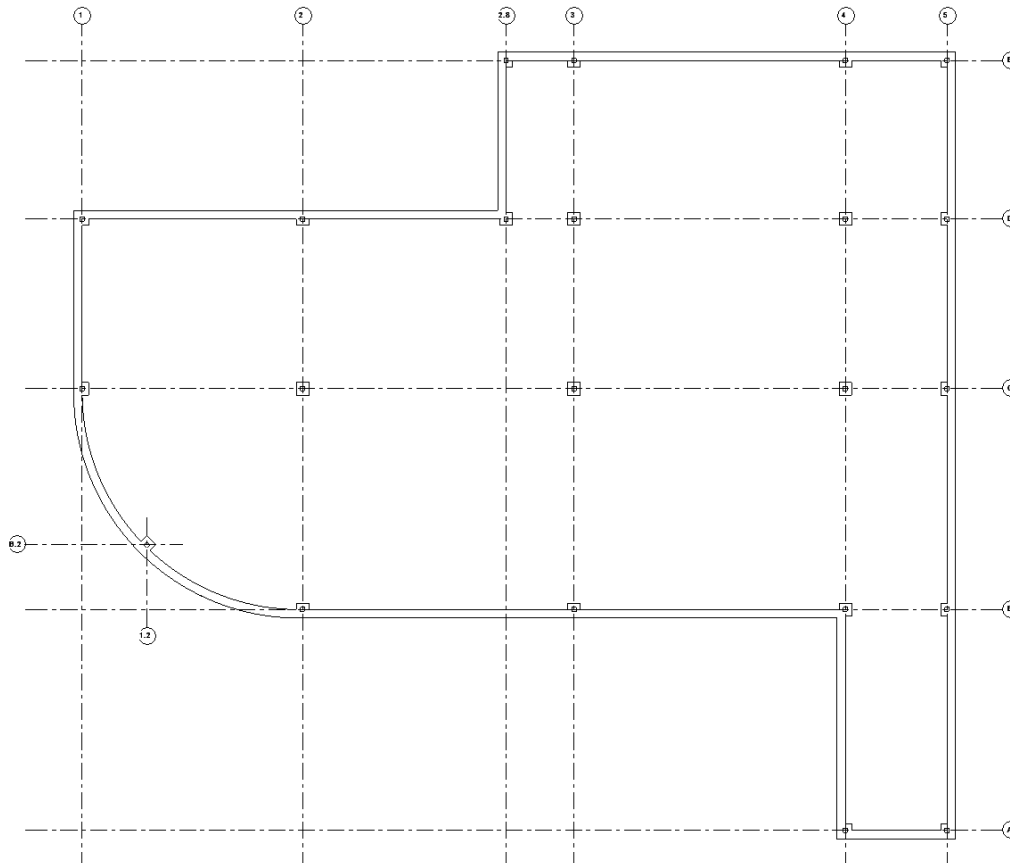

FIGURE 7-5.5 Level 1 slab and foundation plan; concrete columns added
22. Snap to the center point of each steel column, to place a concrete column (Figure 7-5.5).
Your plan should now look like the image below (Figure 7-5.5). Notice how the column and the foundation wall automatically joined. When placing the columns, you did not have an option to lower the top of the column down 8"; you will do that next. This will create an unrealistic condition at the exterior walls that will not be addressed in this tutorial; typically, a
23. Select and **Rotate** the concrete column (45 degrees) at the middle of the curved foundation wall (Figure 7-5.5).